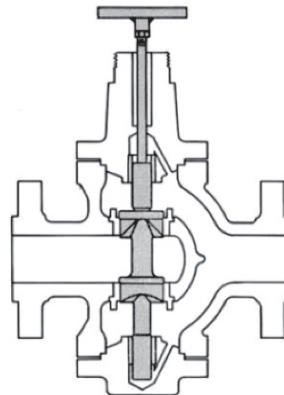

Figure 5
- I. Screw a drilled and tapped rod with a tee handle onto the plug stem and secure with a lock nut. (See Figure 5).